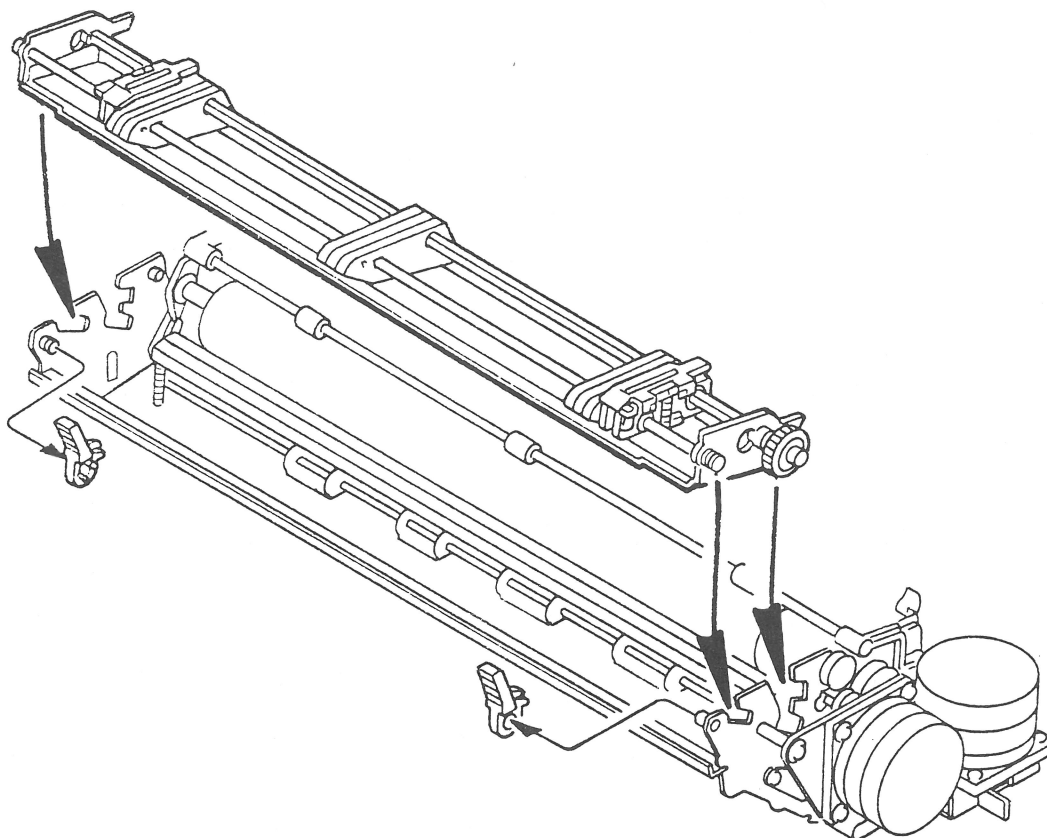

FIGURE 17
1. Align the four posts on either side of the tractor assembly with the slots in the mechanical assembly (Figure 17), and lower the tractor assembly into position.